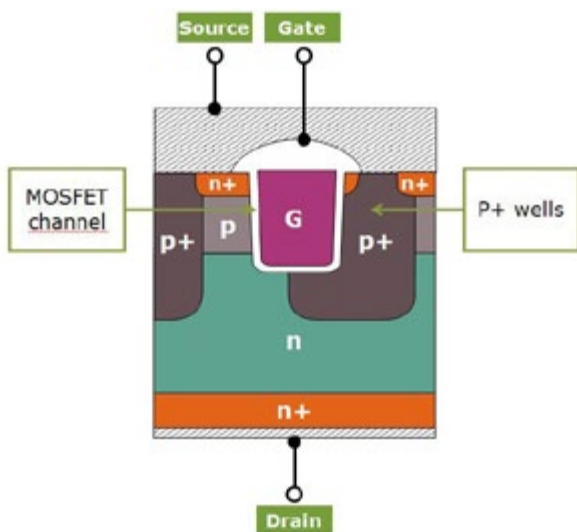
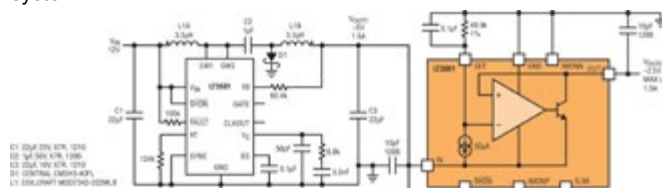
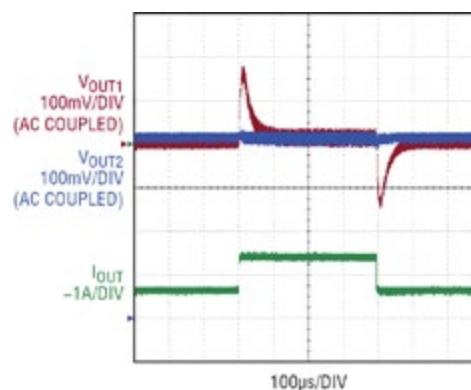
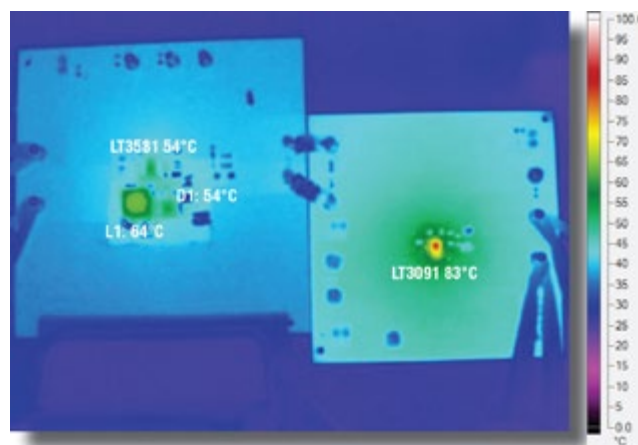

Figure 4: Schematic cross-section of the CoolSiC™ MOSFET cell.
Figure 4: 1.5A low noise and fast transient positive-to-negative converter
Figure 5: Transient response for positive-to-negative converter
Figure 6: Thermal image for positive-to-negative converter
For a trench MOSFET device structure in SiC material, the need to overdrive the oxide is not in place thanks to SiO2 interface in the vertical crystal lattice plane having a far lower defect density than a planar interface [5]. However, a trench structure is a bigger challenge with regards to blocking mode at the trench corners due to high electric fields in SiC material. Design measures to achieve a proper field reduction are more complex than in planar structures. CoolSiC™ MOSFETs contain a unique asymmetric trench structure [6] reducing the electric field in off-state, see Figure 4. A large portion of the bottom of the trench is embedded into p+ wells, which extend below the bottom of the trench thus reducing the off-state electric field. For gate oxide reliability as described in [6, 7] the resulting extrapolated 20 years operation lifetime of the product at an on-state operation of +15 V, shows a predicted low failure rate including extrinsic defects of 0.2 ppm.
As can be seen in Figure 4, the large area of the p-emitter also enables the device to be used as a rapid free-wheeling diode. It is a strong value adder for a SiC MOSFET in many applications if the intrinsic diode can be utilized, as no extra SiC Schottky diode is needed. This intrinsic diode comes with high commutation robustness and low reverse recovery charge [7]. The CoolSiC™ MOSFET intrinsic diode is reliable in long term operation, Figure 5 demonstrates this by a performed DC current stress test: forward voltage (VF) and on-resistance (RDSon) correlations before and after stress have proven that the intrinsic diode is stable and ready to be used.
Figure 5: DC stress test result of intrinsic diode of CoolSiC™ MOSFET. Test conditions: VGS=-9 V, 20 A per chip, Tvj~150°C. VF and RDSon correlations after >100h DC operation.
Figure 4 shows a low noise coupled-inductor positive-to-negative converter. The inverting converter is based on LT3581, a PWM DC/DC converter with built-in power switch. Its  $4\text{mm} \times 3\text{mm}$  DFN package and tiny externals can be combined with the LT3091 in a compact and quiet solution. Figure 5 shows the transient response of the two output voltages. Figure 6 shows the thermal performance of the entire system.